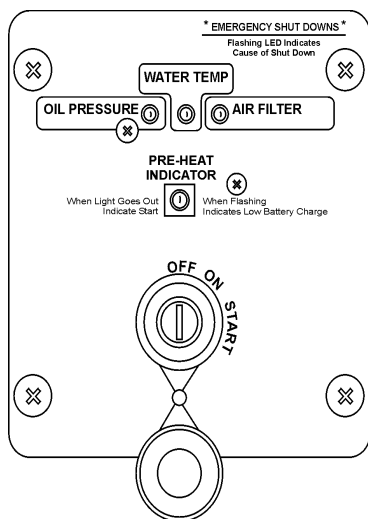

Figure 15. Perkins Ignition Switch
2. Insert the ignition key into the ignition switch (Figure 15). Turn the ignition key clockwise to the **ON** position. The pre-heat indicator lamp will be lit, wait for this indicator lamp to go **OFF**. When the lamp goes **OFF** this indicates that the glow plugs have been pre-heated and the engine can now be started.